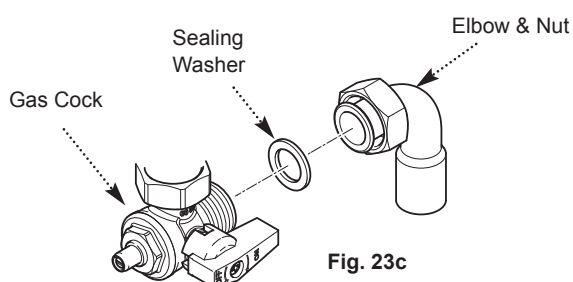

Fig. 23c
5.4.6 Connecting the Gas Supply (Fig. 23c)